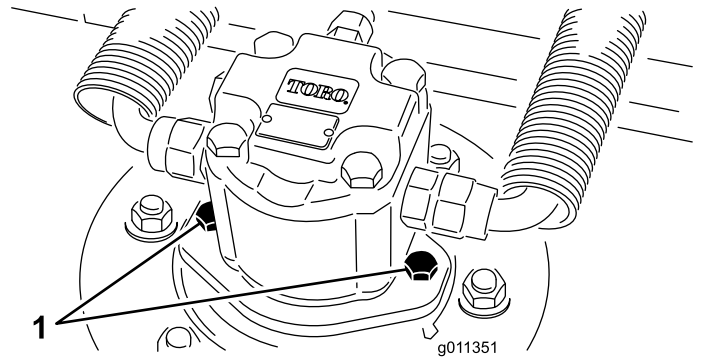

Figure 96
2. Disconnect and remove the hydraulic motor from the cutting unit (Figure 96). Cover the top of the spindle to prevent contamination.
4. Install the hydraulic motor to the deck (Figure 96). Make sure that the O-ring is in position and not damaged.